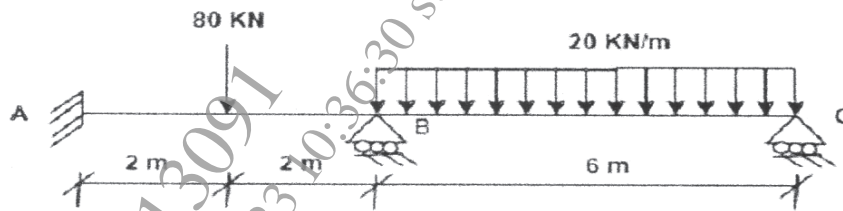

Figure 6
- Q5) a) Analyze the beam ABC shown in figure 6 by stiffness method and draw BMD. [11]